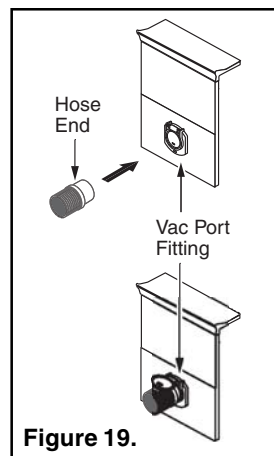

Figure 19.
6. Attach the end of the hose to the vac port fitting installed in the dedicated vacuum line, (see Figure 19).